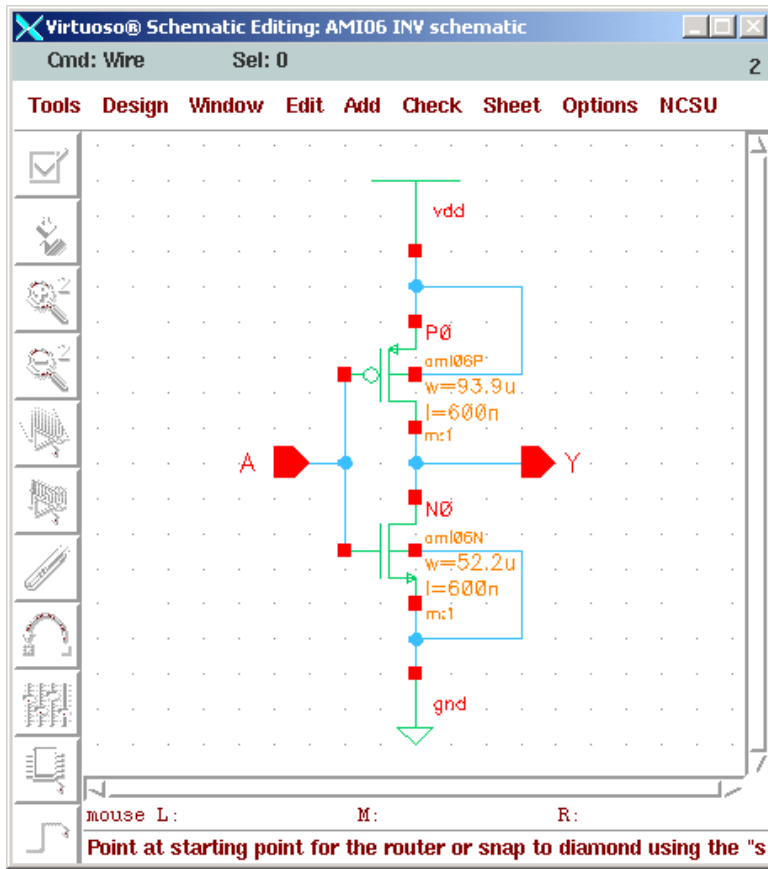
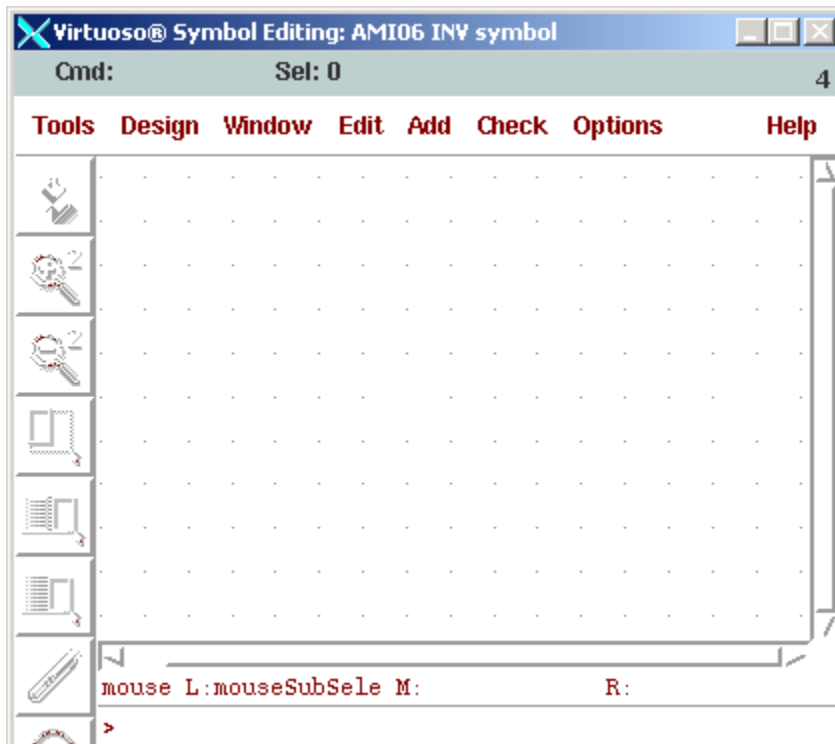

Figure 25: Completed schematic.
Figure 27: Symbol editor.
Stamp down the input pin like in Figure 25.
Stamp it down like in Figure 25.
2. Fill out the pop up exactly according to Figure 25. Click OK. The symbol editor tool should appear (Figure 27).